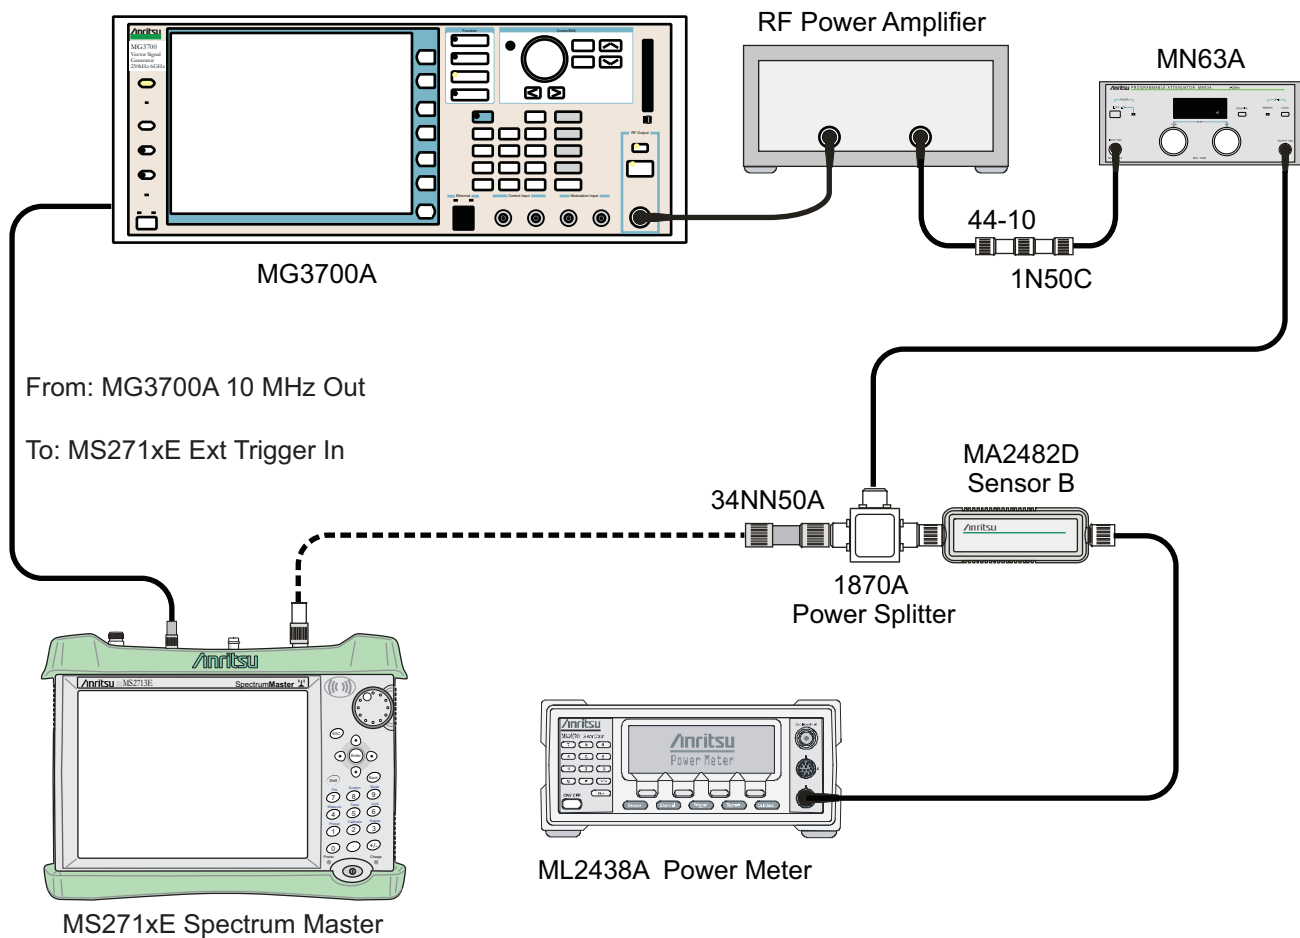

Figure 4-16. Level Accuracy Verification
26. Remove Sensor A from the Power Splitter, and then connect the Power Splitter to the Spectrum Master RF In port with the N(m)-to-N(m) adapter, as shown in Figure 4-16 on page 4-70.
31. Press the **Shift - Sweep (3)** hard keys, then choose **Meas Mode**.
61. Remove Sensor A from the Power Splitter, and then connect the Power Splitter to the Spectrum Master RF In port with the N(m)-to-N(m) adapter, as shown in Figure 4-16 on page 4-70.
13. Remove Sensor A from the splitter and connect the Spectrum Master RF In port to the open end of the splitter using an adapter as shown in Figure 4-16 on page 4-70